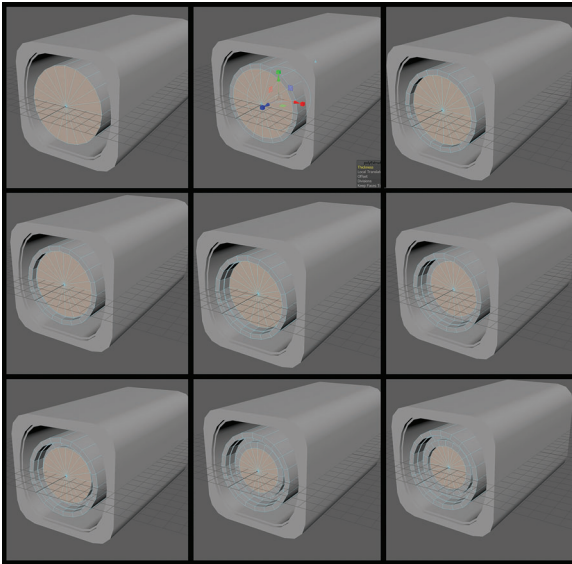

FIGURE 1.14 Using the Extrude, Move, and Scale tools to create the front rim of the lens.
Step 11: Lens frontal rims. Switch to Vertex mode. Select the vertex at the center of the front faces, hold down the Ctrl+right-mouse button, and in the resulting pop-up marking menu, chose To Faces->To Faces. This will select all faces that share this vertex. Turn off the symmetry (remember up in the second row of the interface). Press R to go to the Scale tool and hold down the Shift button and drag the yellow box to extrude the face in. Using the Move tool, hold down the Shift button and drag the face back in; keep on extruding with Scale and Move tools to create all the rims of the lens (Figure 1.14).